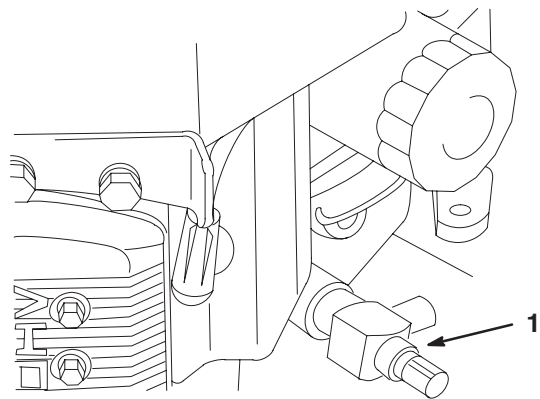

Figure 30
5. Place a pan under the oil drain hole in the engine frame (Fig. 30).
6. Open the oil drain (Fig. 30).